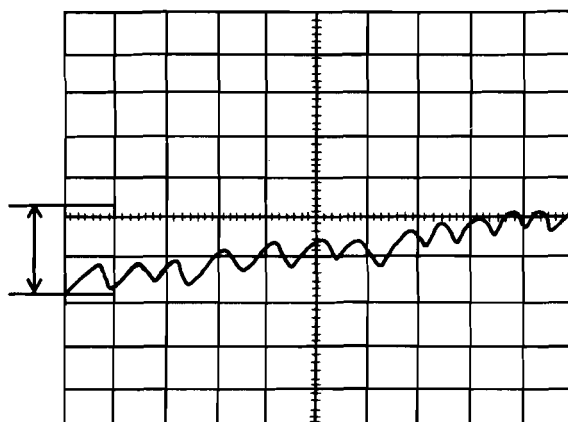

Figure 4-10. Residual FM Typical Waveform
7. Adjust the TUNING control until the horizontal scan is at the 50 dB graticule line. Set SCAN MODE to SINGLE position and press PUSH SINGLE concentric control. A typical resultant waveform is shown in Figure 4-10. The amount of peak-to-peak amplitude variation is the residual FM and should be less than 200 Hz. For example in step 5, this would be 2 1/2 divisions. (For 100/300 Hz Filter Option refer to paragraph A-2 in Appendix A.)